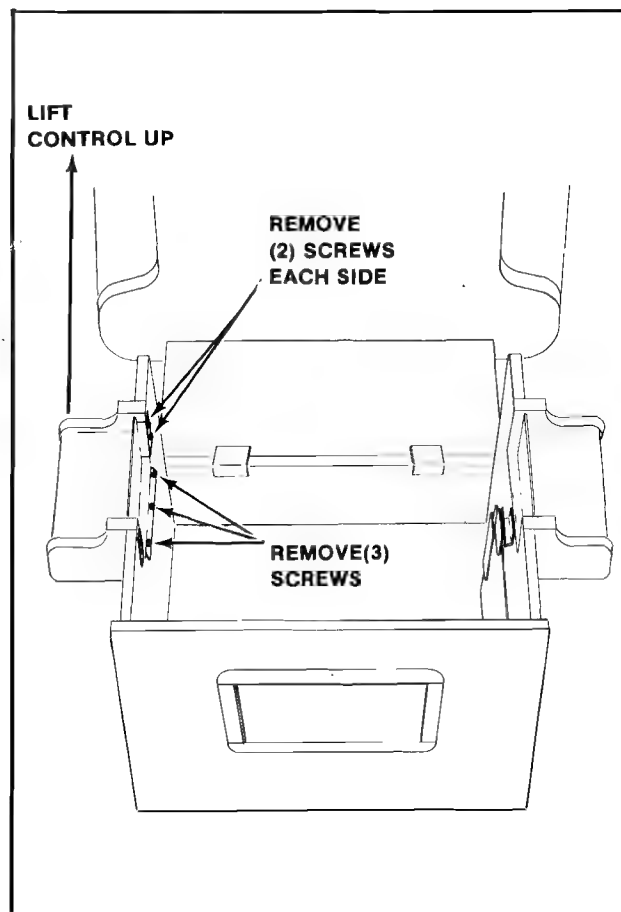

Figure 3-4 Removing the Control Panel — Cocktail
3. COCKTAIL TABLE MODEL: See Figure 3-4.
Remove the screws which secure the control panel in place. See Figure 3-4.